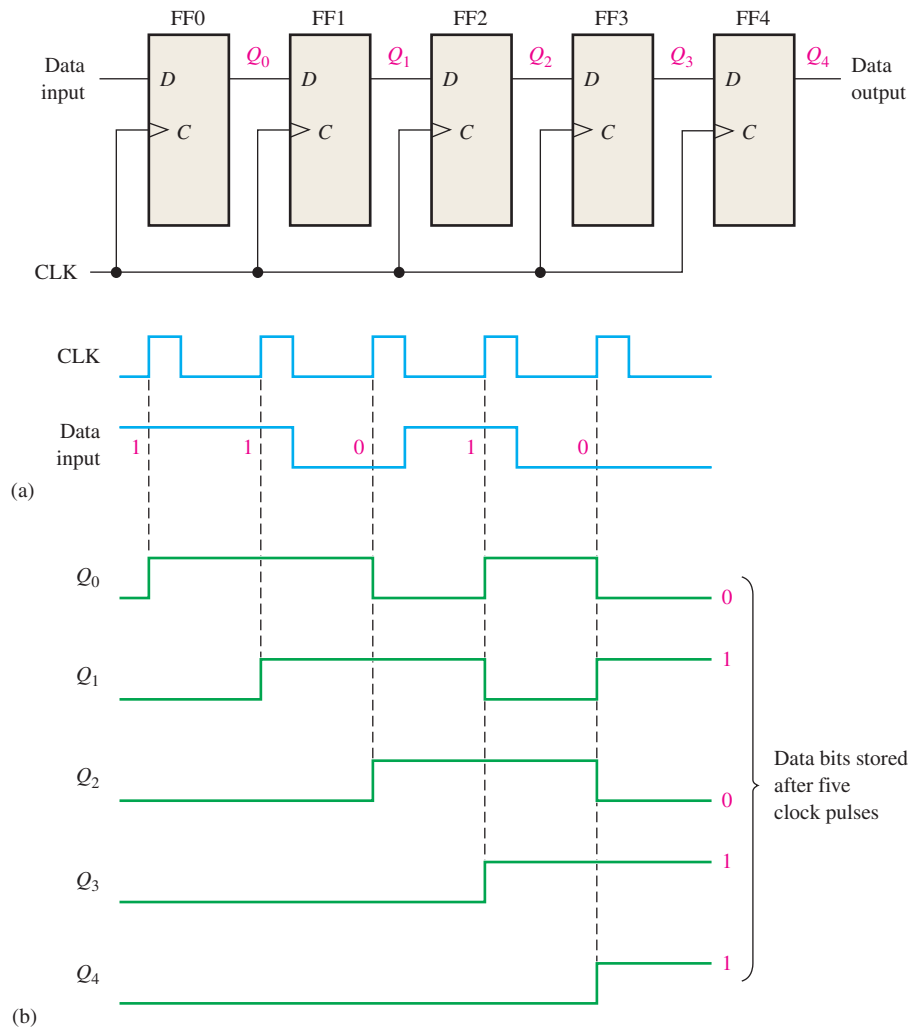

FIGURE 8-4 Open file F08-04 to verify operation. A Multisim tutorial is available on the website.
Show the states of the 5-bit register in Figure 8-4(a) for the specified data input and clock waveforms. Assume that the register is initially cleared (all 0s).
The first data bit (1) is entered into the register on the first clock pulse and then shifted from left to right as the remaining bits are entered and shifted. The register contains $Q_4Q_3Q_2Q_1Q_0 = 11010$ after five clock pulses. See Figure 8-4(b).